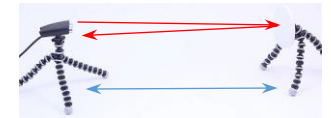

Figure 3: Setting up the light barrier
- Place the light barrier and reflector opposite to each other at a distance of about 1 m, see Figure 3.